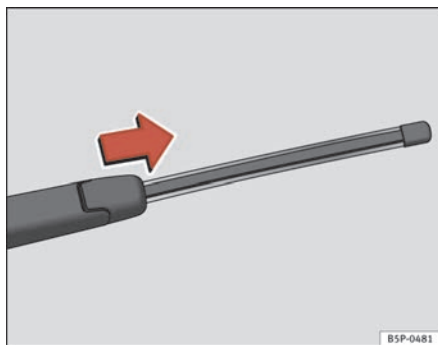

Fig. 164 Remove rear window wiper blade
- Lift the wiper arm away from the glass ⇒ page 227, fig. 164.
- Slide the blade adapter in the direction of the arrow and remove the blade ⇒ page 227, fig. 164.